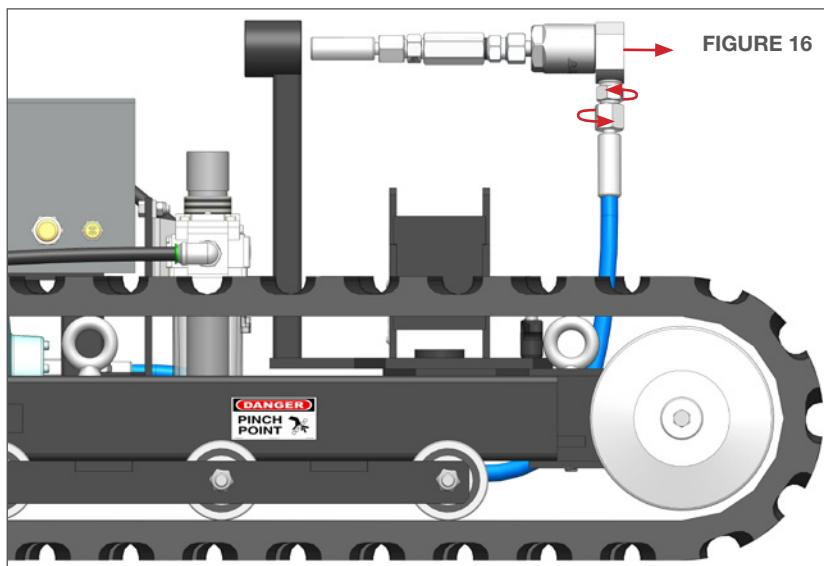

FIGURE 16
16. Loosen the swivel fitting with two adjustable end wrenches and slide the swivel out from the holder. (**Figure 16**)